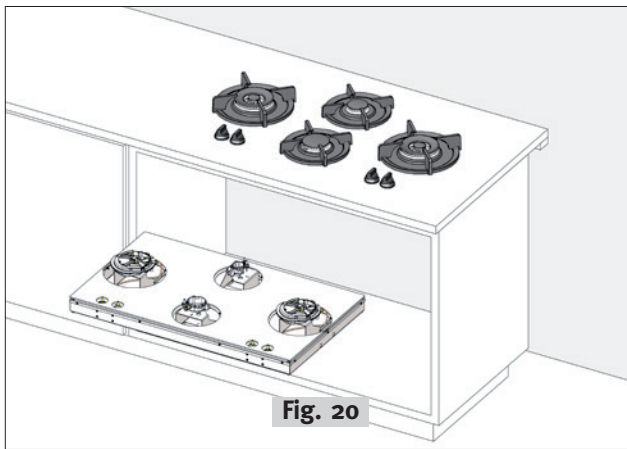

Fig. 20
- 5b. In case of service, the PITT® cooking module should **ALWAYS** be able to be disassembled without disassembling the cabinets and/or kitchen worktop (**fig. 20**).